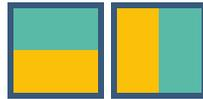

FIGURE 6.8-4 DESIGN STRIPS IN X- AND Y- DIRECTION
- Use **Floor Design | Strip Results/Visibility | Display/Hide X- or Y-Tributaries** to view the generated column strips and middle strips in either direction as shown in **Figure 6.8-4**. Middle and column strips are shown hatched in **Figure 6.8-5** for this example.